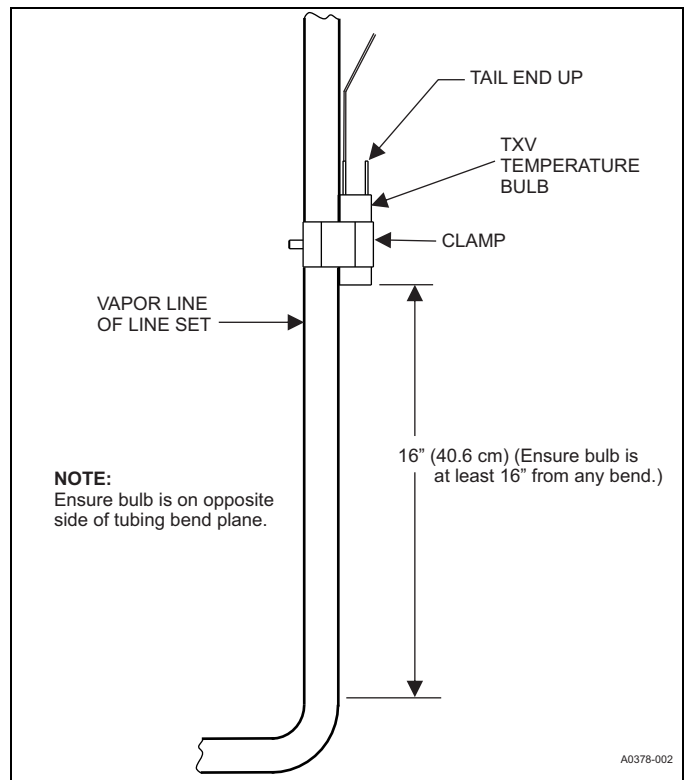

FIGURE 5: Vertical Temperature Bulb Orientation
- If bulb installation is made on a vertical run, locate the bulb at least 16" (40.6 cm) from any bend, and on the tubing sides opposite the plane of the bend. Position the bulb with the tail of the bulb at the top, so that the bulb acts as a reservoir. See Figure 5.